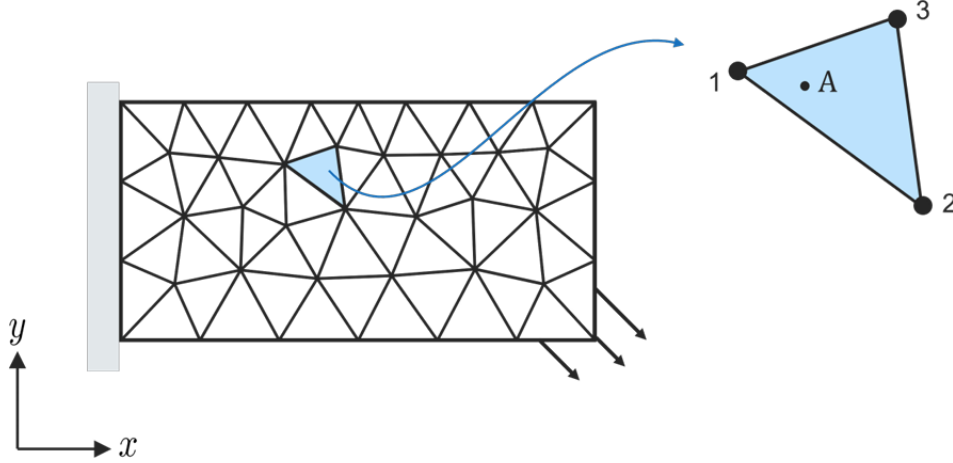

Figure 3: Illustration of component with discretization and the considered element in Problem 3.
Assume a mechanical FE simulation has been performed of a component with thickness $t = 0.015$ m. The material is assumed linear elastic with Young's modulus $E = 210$ GPa and Poisson's ratio $\nu = 0.3$. The simulation used a discretization of linear isoparametric triangular elements as can be seen in Figure 3. In this problem, you will only consider a single element (among those
- Consider a point A within the element with local coordinates $[0.2, 0.1]^T$ in the parent domain. (The point is shown in the right part of Figure 3.) For this point, calculate the corresponding global coordinates $\mathbf{x}_A = [x_A, y_A]^T$. (1p)